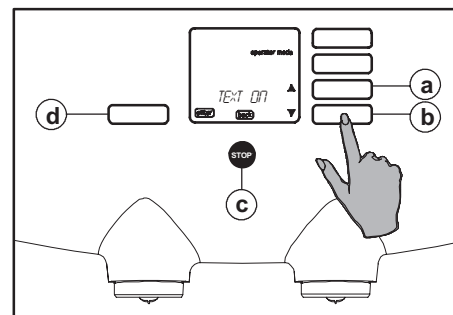

Fig. 64 Selecting "TEXT ON or OFF"
4. Press the enter button (fig. 64 d). The display shows the option selected.
5. With the scroll buttons \updownarrow , choose "TEXT ON" or "TEXT OFF" (fig. 64 a or b).
6. Press the enter button (fig. 64 d) to confirm the setting.
7. Then press the stop button (fig. 64 c) to end the programming.